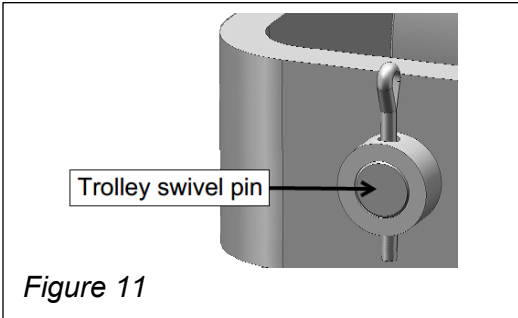
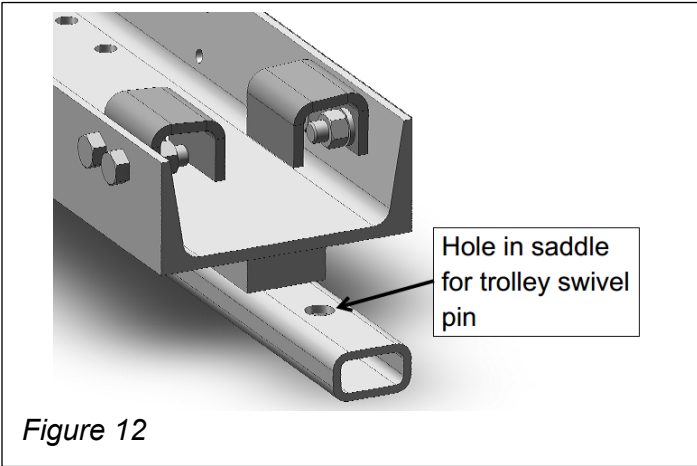

Figure 11
Figure 12
- 6. Insert trolley swivel pin from bottom of trolley through spherical washer and into hole in trolley load bar (see Fig. 12), secure with cotter pin (see Fig. 11).